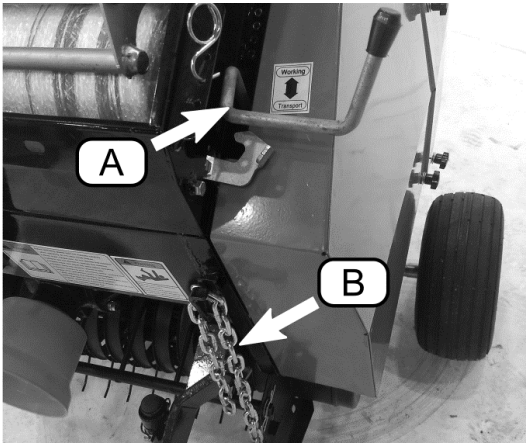

Figure 28 Front left side of baler
- For optimal operation, the tines of the pickup should be about one (1) inch from the ground in normal conditions. In bumpy or rocky fields, a clearance of up to two (2) inches or more may be suitable to prevent damage to pickup components. For baling light hay cuttings or straw, the pickup may need to be lowered.
- Adjust the pickup height by lifting it with the lift lever (Figure 28, A) and using the lower limit chain (B) to keep it in place.